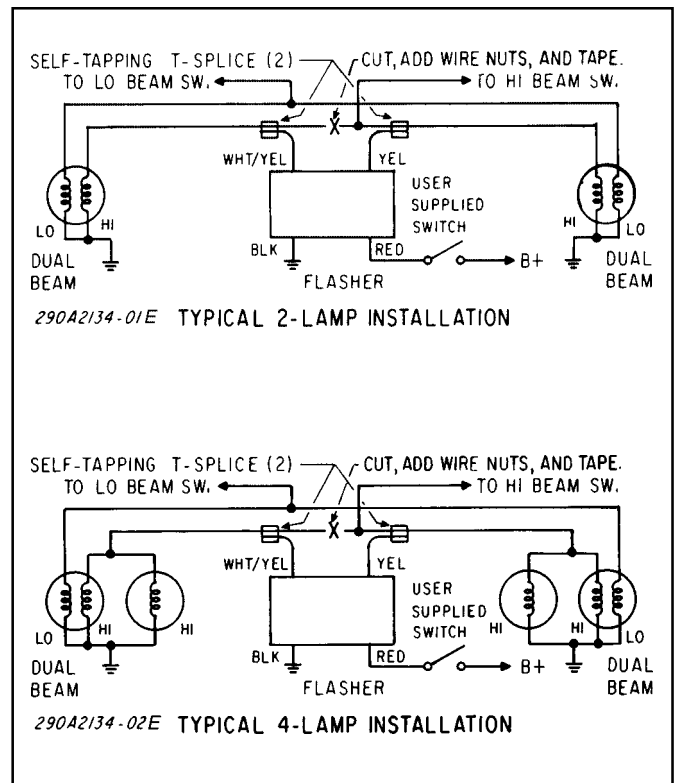

Figure 1. Wiring Diagram.
Refer to figure 1 when performing the following procedure.
2. Connect the flasher's **yellow** wire to the headlamp which has its wiring connected directly to the Hi-Beam switch. Do not cut this wire. Using the supplied blue T-Splice connectors, splice the **yellow** wire as shown in figure 1. Next, splice the **white/yellow** wire to the other headlamp wire. Cut the wire which ran between the headlamps as shown in figure 1. Trim the wire ends near the connector, add wire nuts and tape securely.